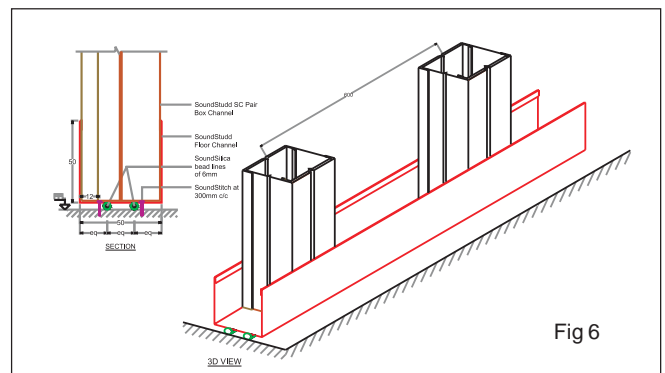

Fig 6
For openings, like windows (windows/glazing and doors), ducting etc Studd Box Channel (BC) or a pair of mated Studd SC50 channels are used for additional reinforcement. The BC/SC channels are connected at right-angle joints with Studd L-Clamps (LC). (See Fig 6)